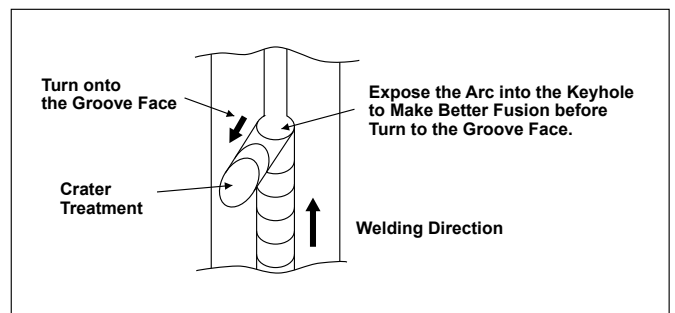

Fig. 6 — How to terminate the weld crater in order to prevent the crater from cracking
- (3) Terminate the crater on the groove face in order to prevent the crater cracking — Fig. 6.